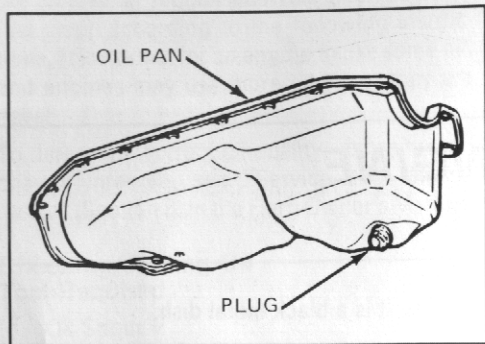

Figure 1 - Oil Pan Plug
2. Remove the dipstick located at the rear of the engine compartment. See Figure 1. Carefully touch the wet end of the dipstick to find out if the fluid is at least room temperature. If it feels cold, replace the dipstick and drive the car for at least five miles before checking again. If the fluid is at room temperature or hotter, clean the dipstick and push it back in until the cap seats. Pull out the dipstick and read the fluid level. The level should be in the cross-hatched area on the dipstick.
1. Locate oil plug on oil pan and position a bucket, or pan, beneath it. See Figure 1.